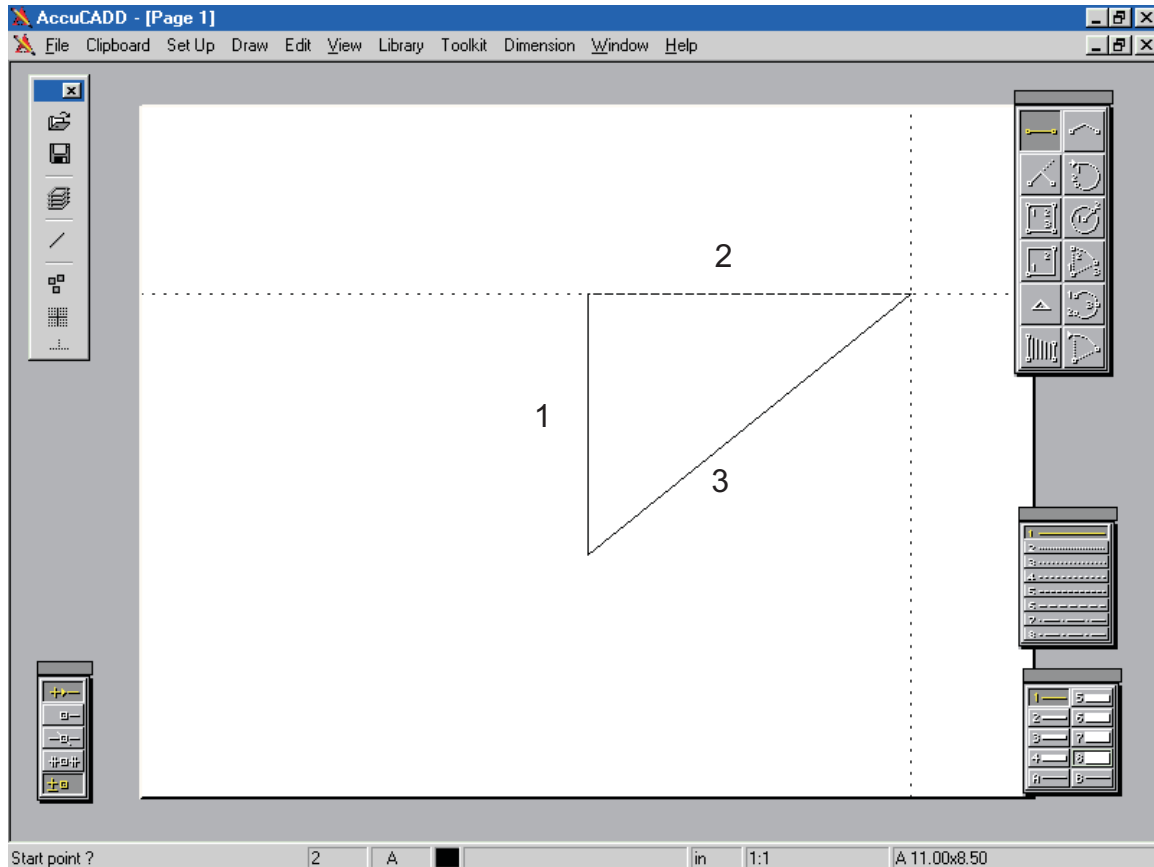

Figure 4: Completing the triangle
[] Move the cursor to the free end of one of the two lines; again, as you approach the target, the cursor snaps precisely into position. Plant the cursor there (touch), then head for the other line-end. Snap the cursor there, then touch to draw line (3), as in Figure 4.